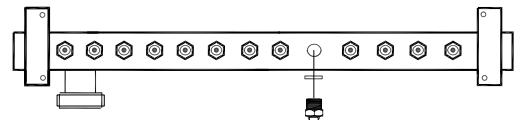

Fig. 50
**7.11 TO REMOVE/REPLACE THE INJECTORS ( fig. 50).**